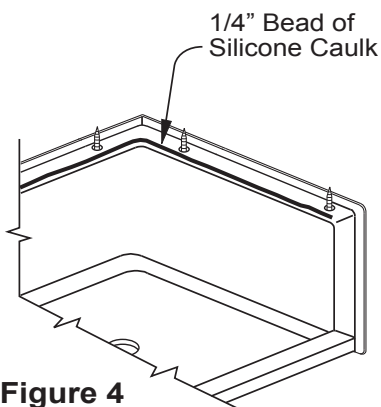
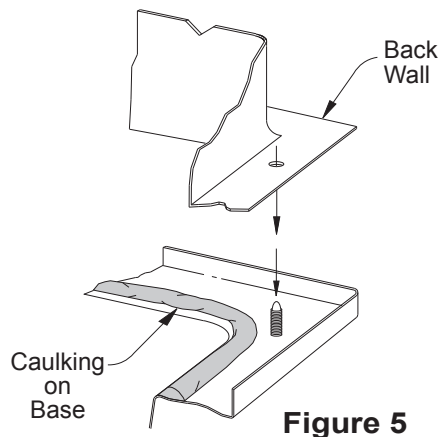

Figure 4
Figure 5
22. Apply a continuous bead of silicone caulk to the top connection surface. Apply the caulk between the inside edge and plastic fasteners. (See *Figure 4*). The holes in the back wall mounting surface will index with the plastic fasteners to line up the part with the base. The caulking will secure the parts together when it cures. See *Figure 5*.